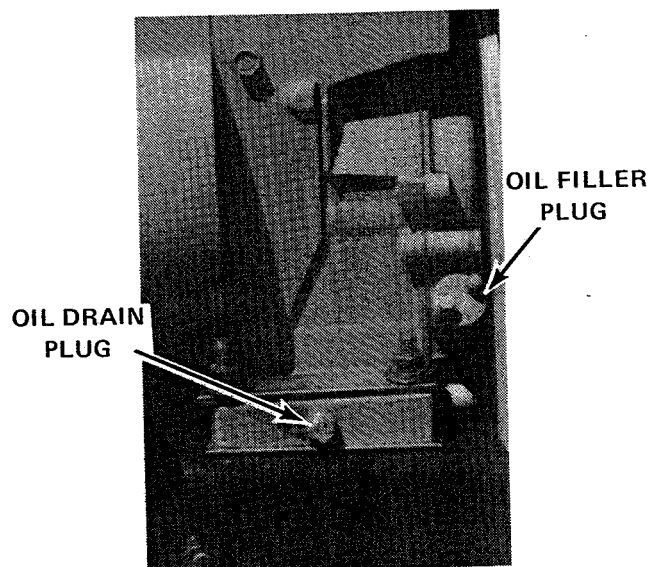

Figure 10.
c. OIL. See Figure 10. Have available sufficient quantities of engine crankcase oil, SAE 30 grade MS. Remove dirt around engine filler plug. Remove engine filler plug by turning counter-clockwise. Fill with oil until level with top of neck. Crankcase capacity is 1-1/4 pints. Reinstall filler plug securely. Check oil everytime fuel is added.
See Figure 10. Change engine oil as follows: